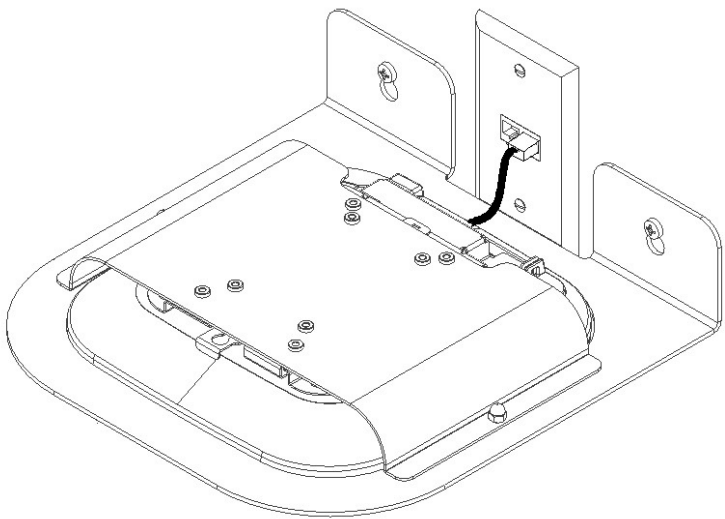

Figure 5
Step 10 – Complete the installation by attaching the opposite end of the previously installed Ethernet jumper the wall outlet (Ref. Figure 5).